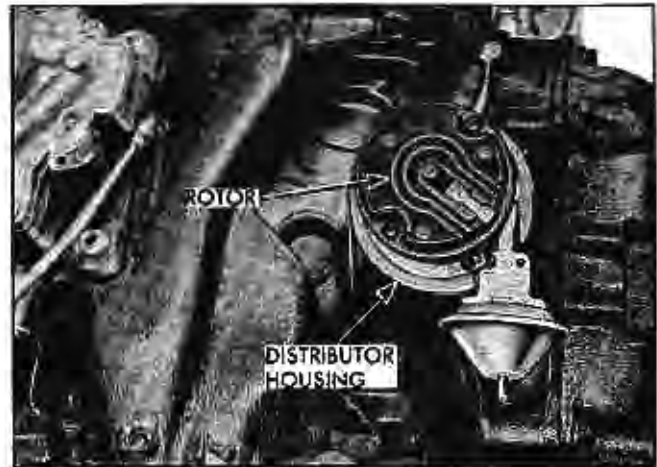

Fig. 11-63 Relationship of Distributor Housing and Rotor in Firing Position for No. 1 Cylinder
3. Install distributor in block so that vacuum diaphragm faces the left side of the engine and rotor points toward contact in cap for No. 1 cylinder. Before installing distributor, index rotor with housing as noted when distributor was removed. This will simplify indexing the distributor shaft and gear with the oil pump drive shaft and the drive gear on the camshaft. Distributor and rotor will be positioned as shown in Fig. 11-63 when properly installed with No. 1 piston in firing position.